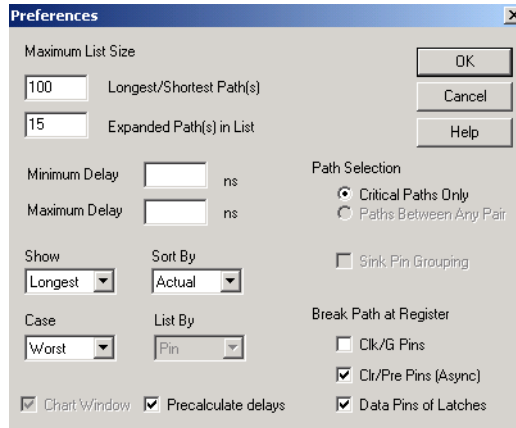

Figure 2-35. Timing Preferences Dialog Box
3. **Enter a file name in the File Name text box, followed by *.mod*, and click *Save*.** The Preferences dialog box appears, as shown in Figure 2-35.